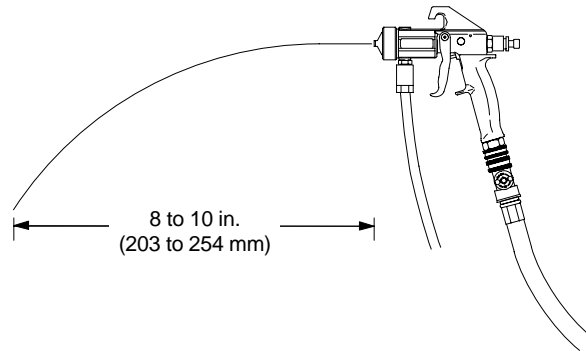

Fig. 7
2. For remote pressure pot, hold gun parallel to floor and adjust fluid pressure at 8 to 10 inch (203 to 254 mm) fluid stream. See Fig. 7.